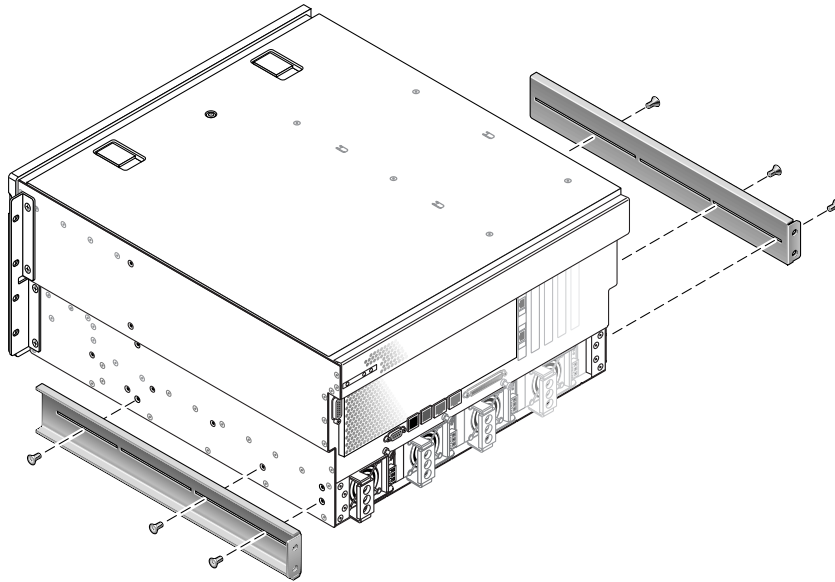

FIGURE 3-3 Attaching the Rear Mount Support Brackets
5. Install the rear mount support brackets at the rear of the server, extending the rear mount support brackets to the measured depth of the rack (FIGURE 3-3).